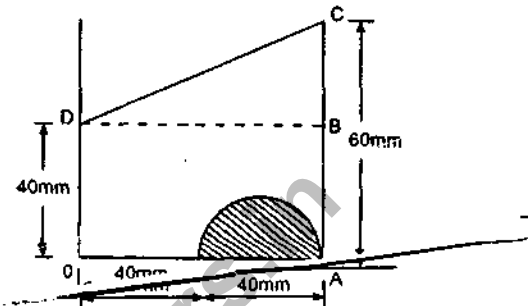

Fig. 8
Q.5. (b) A semicircular area is removed from the trapezoid as shown in Fig. 8. Determine the centroid of the remaining area.